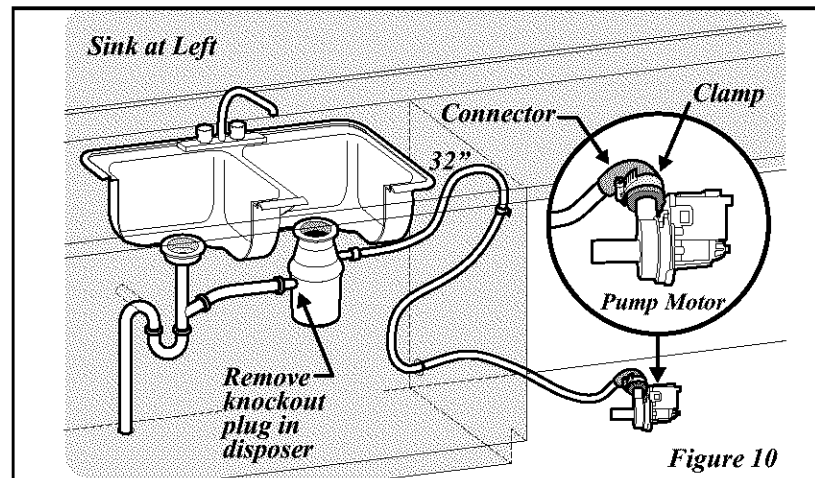

Figure 10
4. Be sure unit does not rest on drain hose. It should be free of electrical components and door springs. Do not cut corrugated drain hose. Pull excess through cabinet and place under sink. Make sure hose does not come in contact with any sharp edges. See Figure 10.